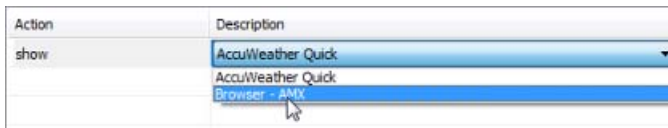

FIG. 343 Edit Event Actions dialog (Launch Action p- show menu example)
- c. Open the drop-down menu of application windows that are in this project, in the *Description* column (FIG. 343):